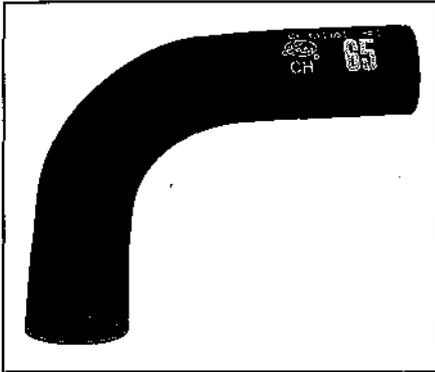

Figure 14-5:
- ✓ **If it's a top radiator hose;** *Don't* get a radiator hose that has wire inside it. Radiator hoses have to bend to fit properly between the radiator and whatever they lead to. Some hoses are straight tubes, with wire coiled inside the rubber casing. These are called *universal* hoses; they're designed to bend to fit many cars. Often, the wire breaks or works its way through the top covering of the hose, causing the hose to leak. The kind of hose to look for is called a *preformed* hose, shown in Figure 14-5, which is made with the proper bend already in it and no wire inside the rubber.